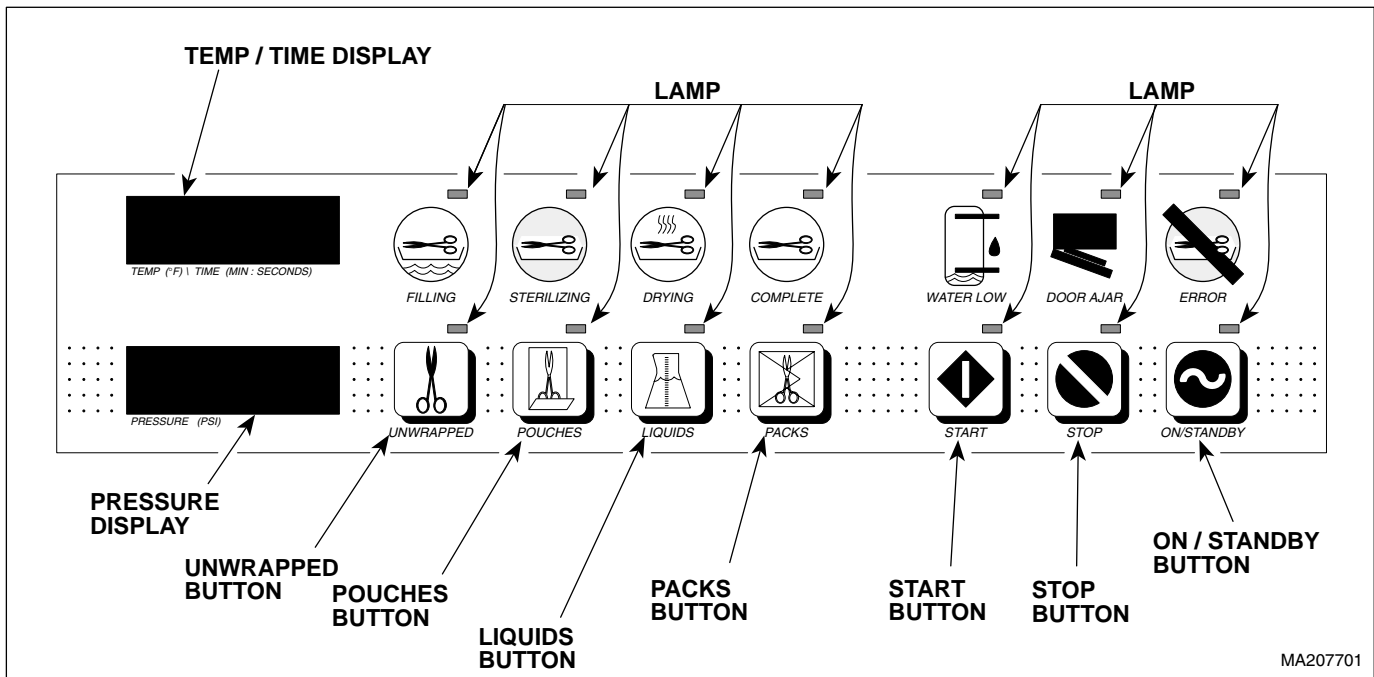

Figure 4-33. M9 / M11 Door Opening Test
- (1) Fill chamber with water. *[To do this, start any cycle. After chamber has filled with water, the Sterilizing LED will illuminate]*
- (2) Disconnect power cord.
- (3) Open door.
- (4) Press and hold **STOP & POUCHES** buttons (see Figure 4-33) while plugging in power cord.
- (5) Press and release all buttons from left to right across display panel.
- (6) Close door. *[This will activate all relays in the sterilizer in sequence. Pulse solenoid should automatically open door when test cycle is complete].*
- (7) To rerun test, repeat steps 2 thru 6.
- (8) To verify proper operation, run a complete cycle when test is complete.